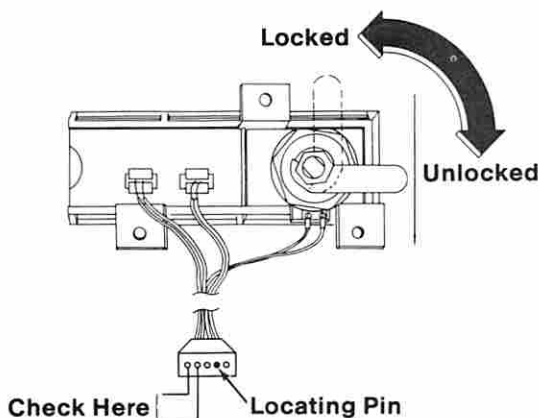

Figure 4. Continuity Check
- Check the control panel switch as shown in Figure 4 on page 0300-8.